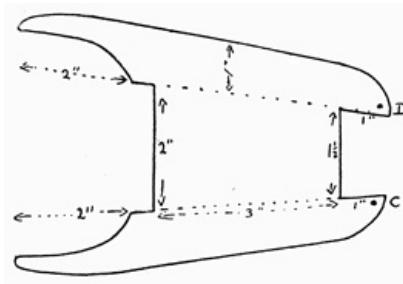
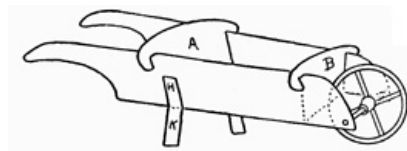

FIG. 185
FIG. 188
**A Wheelbarrow** (Fig. 188). This toy is made of cardboard of medium thickness. Fig. 185 shows how the bottom and the sides are cut out from one piece. Half cuts are made along the dotted lines. Small holes are made at D and C for the axle of the wheel.